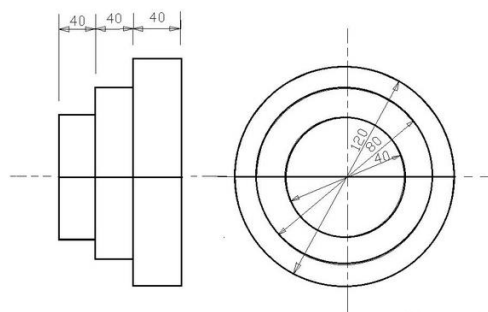

Figure 1.1 Stepped pulley
1.2 Preparation of stepped pulley with PLA material as shown in Figure 1.1